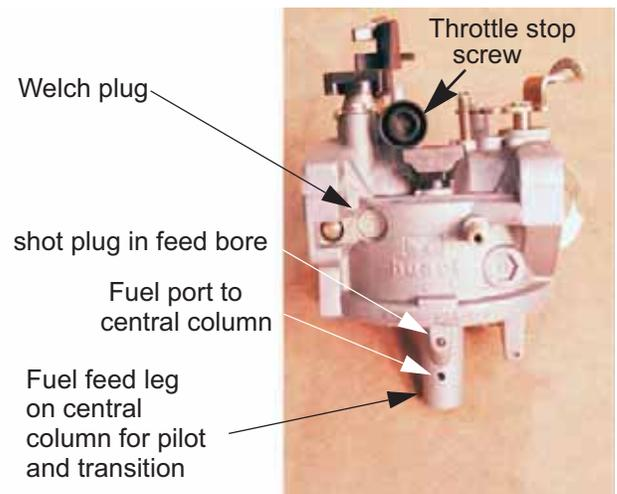

Figure 4.31
10. The throttle stop screw has a large pliable lip around the head of the screw. That lip secures a metering plug for the pilot and transition ports. Remove the screw to reach the plug. See Figure 4.31.